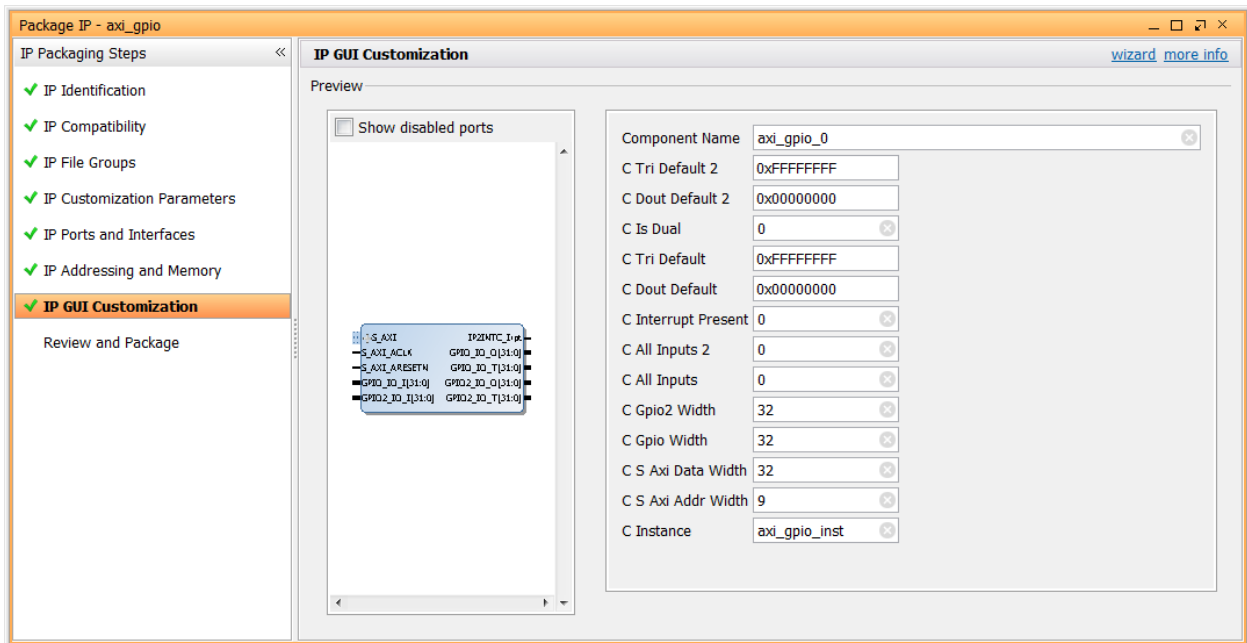

Figure 156: IP GUI Customization Layout
17. Click **IP GUI Customization** to see a preview of how the IP will look during customization and when added to an IP integrator subsystem design (FIGURE 156).